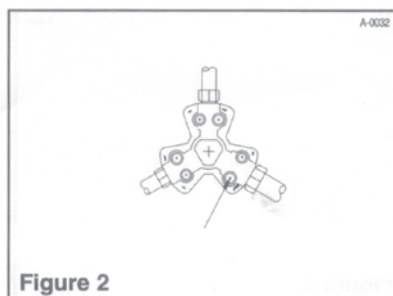

Figure 2
- 3 Insert lock to secure male air fitting into Lockout device (Fig. 2)